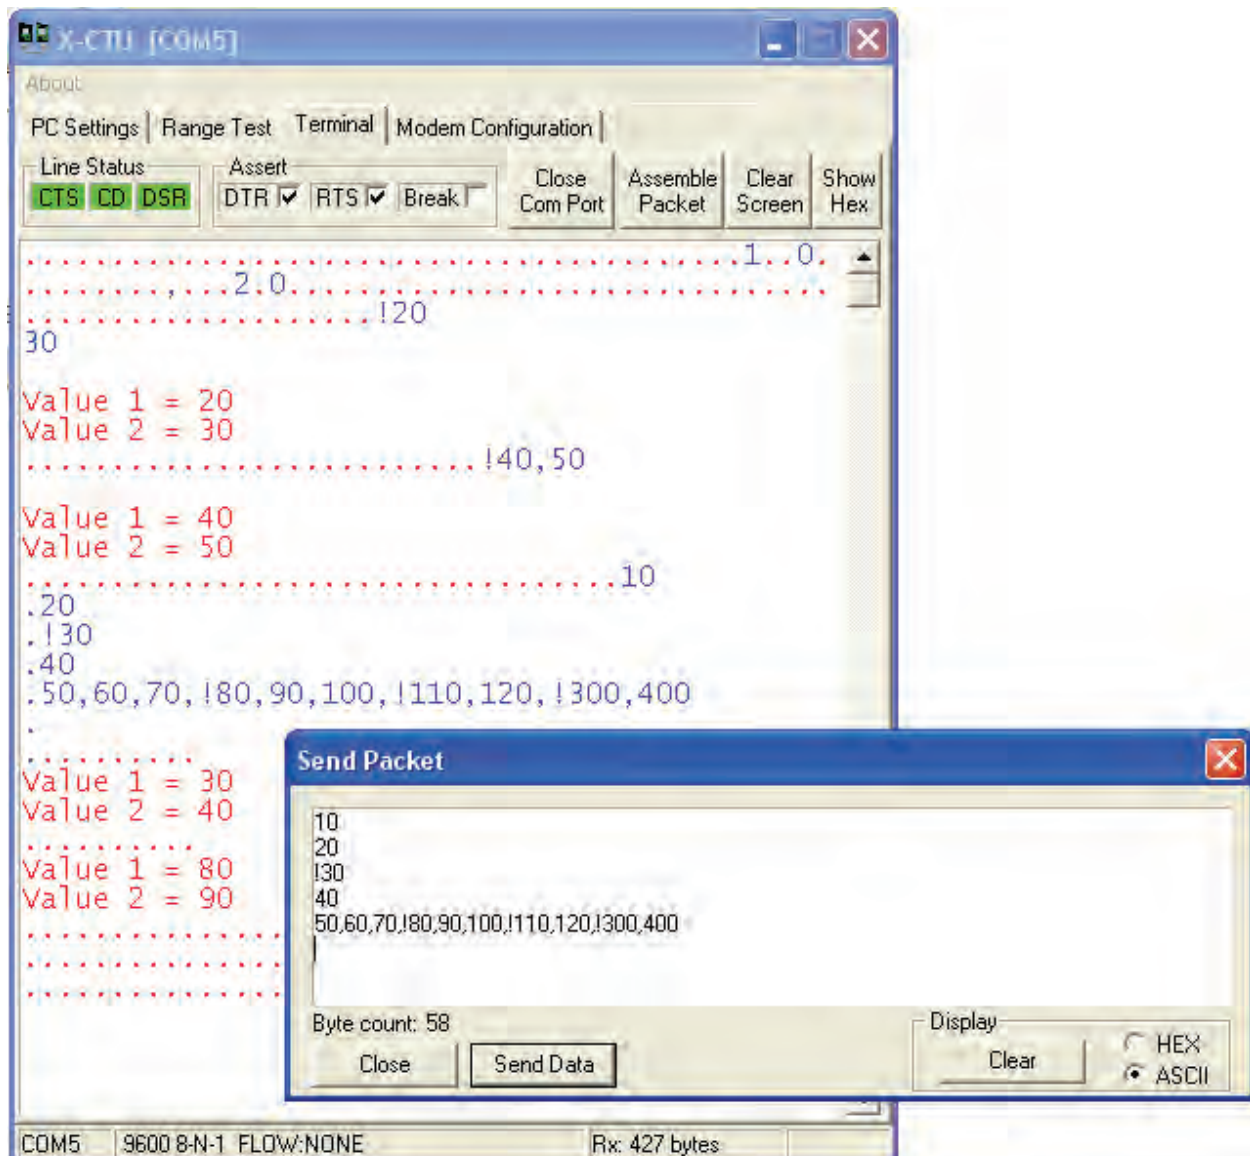

Figure 4-14: Multiple Decimal Receive Testing
- ✓ Use the Send Packet window to build a packet of values and using the “!” delimiter. Again, test the use of carriage returns and commas between values as shown in Figure 4-14.